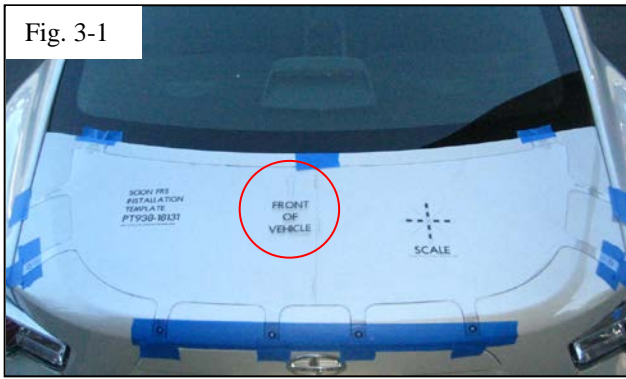

Fig. 3-1
- (a) Place the installation template onto the trunk lid surface with the FRONT arrow pointed toward the front of the vehicle (Fig. 3-1).